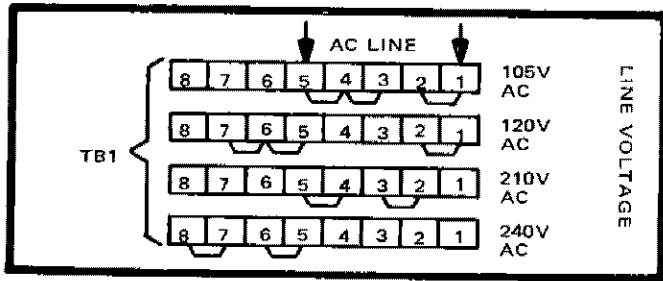

Figure 9-5. Strapping Arrangement
1. Strapping arrangements are shown in figure 9-5 and on the back of top cover. The a.c. line must always be connected to pins 1 and 5. This is a factory connection. **DO NOT CHANGE.**